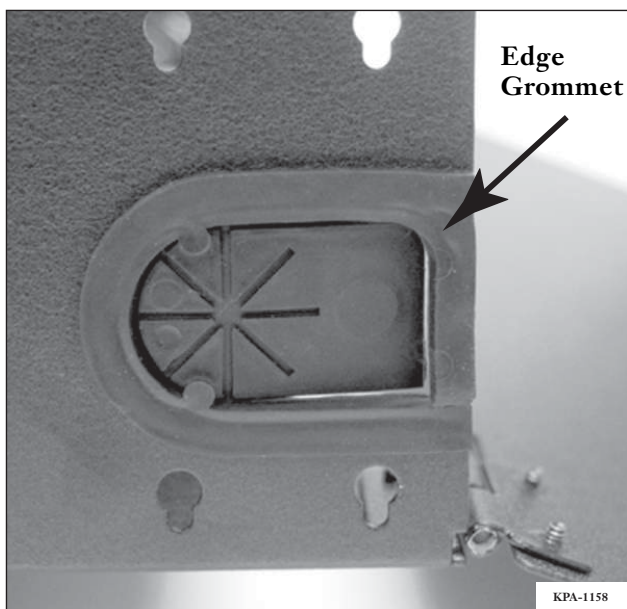

Figure 8
8.2 Determine the location for the cable entry into the housing. The grommets found at each cable entry port can be punctured or the entire center section may be removed, leaving an edge grommet (Figure 8).